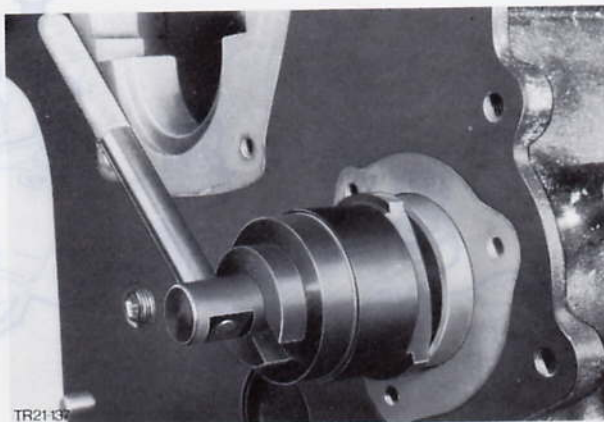

Fig. 126. Back off spindle and fit new bearing bush No. 5
2. Back off main tool spindle and fit new bearing bushes Nos. 5, 4, 3 and 2, using same Special Tool, Fig. 126.